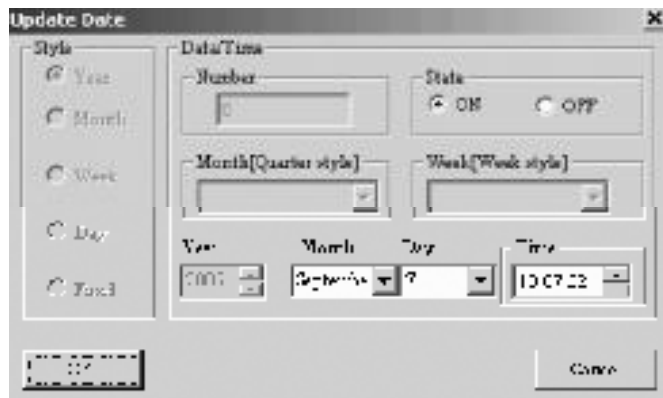

Fig. 3.20 Setting Time
※ Add: When you need to add a time, click “add” button, the dialogue frame as in Fig. 3.20 will be displayed:
- ※ Update: When you want to update a time, put the cursor on the said time record and click UPDATE. As a time setting frame, similar to that shown in Fig.3.20 appears, reset the time, click OK and the said time record is modified.